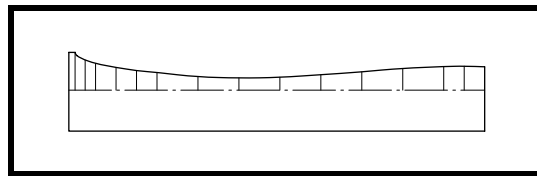

Figure 1
- ❑ Make four supports as shown in Figure 1 from two-by-ten lumber to match the underside of the wing at Station 6. See Drawing No. 212 for the rib contours. Although this support is shown extending all the way to the trailing edge, you may want to cut it off at the aft wing spar so that weight will not be placed on the flaps and so that the flaps will be free to move.